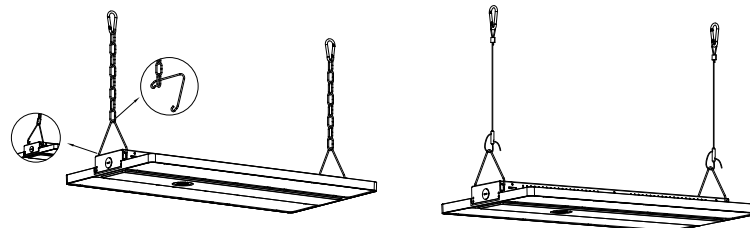

Figure 1
- Step 1. Hook up the chain; (Figure 1)
- Step 2. Connect the chain with fixture; (Figure 1)
- Step 3. Fix the chain on the rail, then adjust the chain's length as per need; (Figure 1)